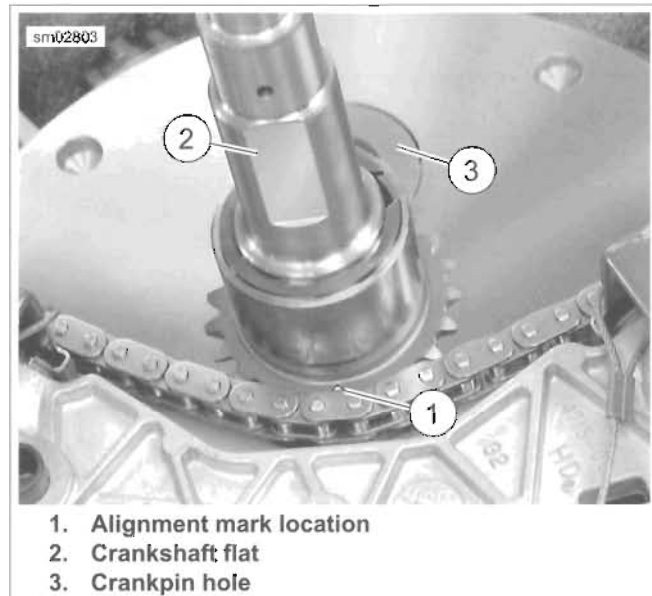

Figure 3-160. Flywheel Alignment Mark
6. See Figure 3-160. Rotate flywheel assembly to align the mark (1) on flywheel balance sprocket to the 6 o'clock position.